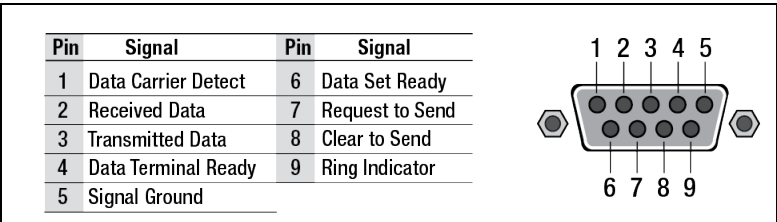

Figure 30. TLS-450PLUS RS-232 DB9 Connector Pin Outs
2. Typical TLS-450PLUS RS-232 DB9 connector pin outs are shown in Figure 30.